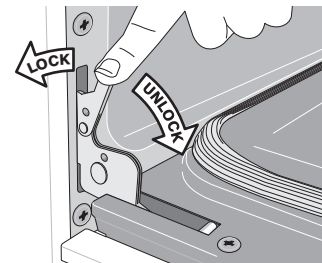

Figure 32: Door hinge locks
1. Open oven door completely, horizontal with floor (See Figure 32).
3. Fully open the oven door, horizontal with floor (See Figure 32).